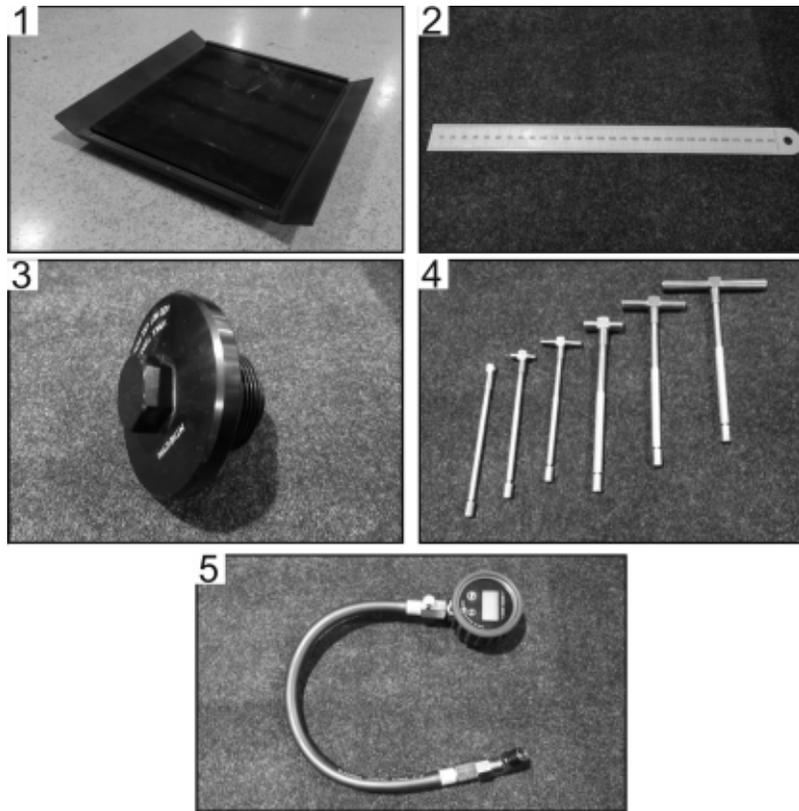

Figure 7
- ⇒ **Figure 7 -1** – Rotary plate
- ⇒ **Figure 7 -2** – Steel ruler 300 mm
- ⇒ **Figure 7 -3** – Wheel nuts for central locking
- ⇒ **Figure 7 -4** – Various height gauges
- ⇒ **Figure 7 -5** – Pressure gauge